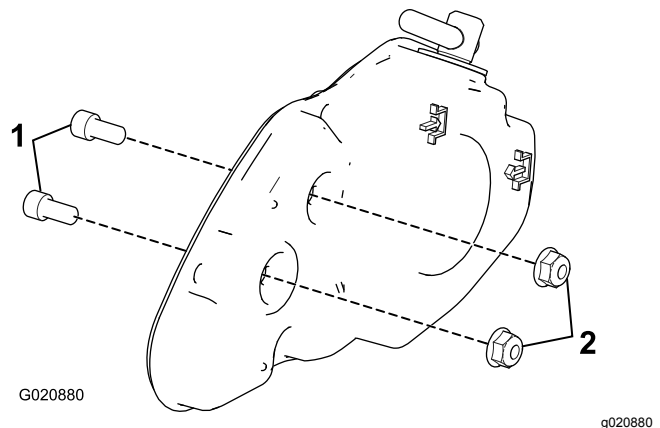

Figure 12
1. Remove the 2 socket-head bolts and locknuts from the cover (Figure 12).